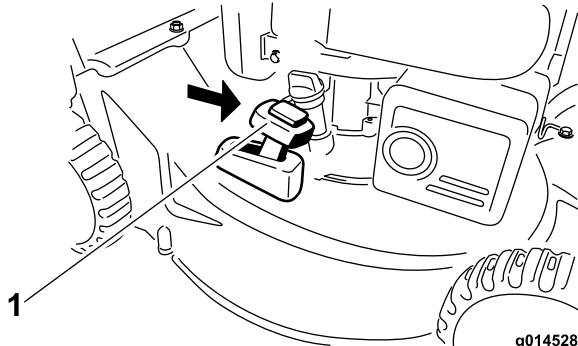

Figure 20
2. Install the grass bag; refer to Removing the Grass Bag \(page 12\) and move the bag-on-demand lever to the **bagging** mode (Figure 20).
Note: If the grass bag is on the machine, remove it before rear-discharging the clippings; refer to Removing the Grass Bag \(page 12\). The bag-on-demand lever should be in the bagging mode (Figure 20).